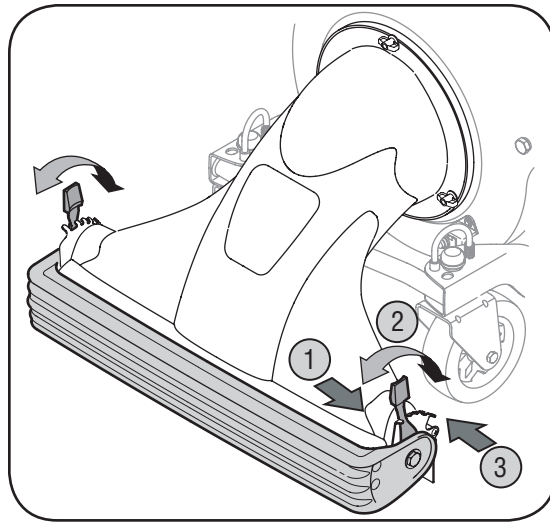

Figure 5-1
2. Slide the height adjustment lever forward or backward for adjusting the nozzle door upwards or downwards. See Figure 5-1.